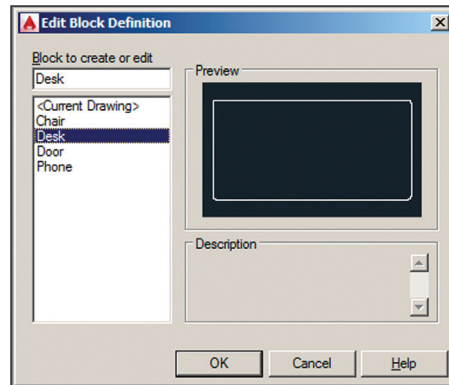

FIGURE 7.18 Selecting a block definition to edit
1. Type `BEDIT` (for Block Editor) and press Enter. Select Desk in the Edit Block Definition dialog box that appears (see Figure 7.18). Click OK.